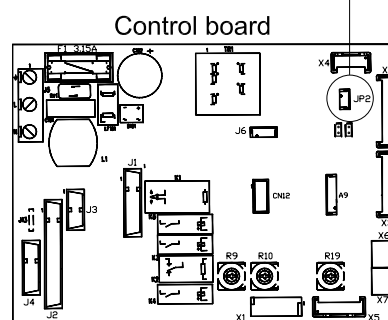

Fig. 39
**IMPORTANT: DO NOT ADJUST THE MINIMUM SET POTENTIOMETER R10, THIS IS SET AN SEALED. THIS CAN BE CHECKED USING A FREQUENCY METER JP2. (Fig. 39).**